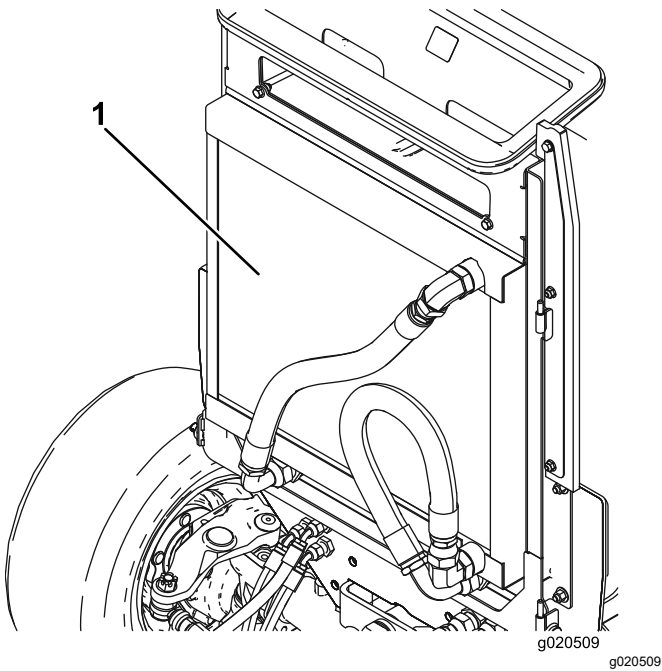

Figure 71
2. Clean both sides of the oil cooler/radiator area (Figure 71) thoroughly with compressed air. Start from the front and blow the debris out towards the back. Then clean from the back side and blow towards the front. Repeat procedure several times until all chaff and debris is removed.